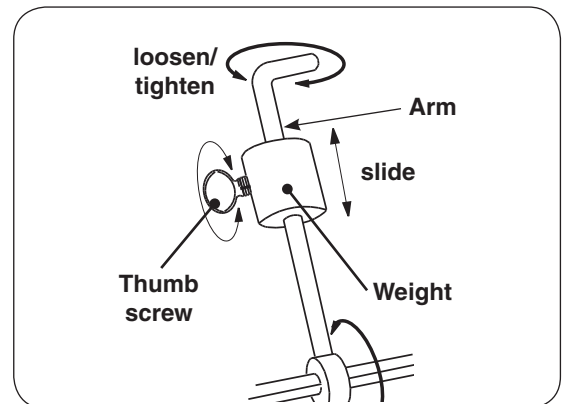

Fig. 5-2 Counterbalance detail
5. Slide the counterbalance weight up or down the arm until the rod rotates most evenly then tighten thumb screw (Fig. 5-2 and Fig. 5-3).